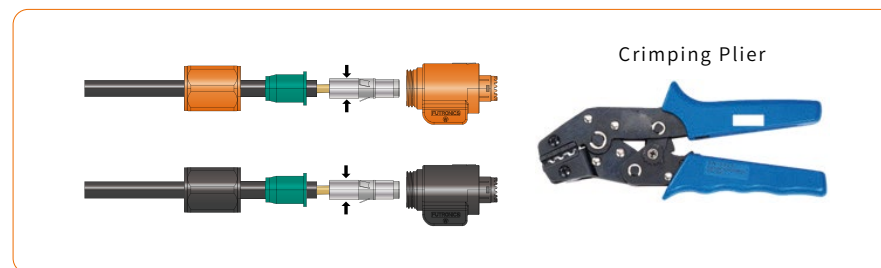

Figure 4-19
- 4) Insert the battery cable through the battery connector nut, then into the metal terminal. Press the terminal with a professional crimping plier (pull back the cable with some power to check if it's tight enough), as shown in Figure 4-19: